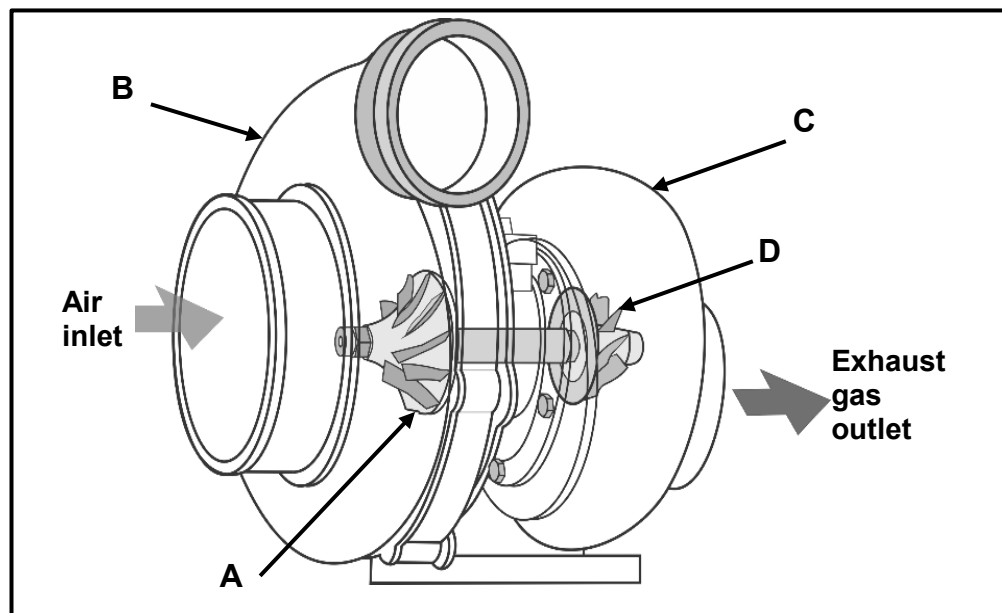

FIGURE 6.7
- 6.7 FIGURE 6.7 below shows a turbocharger that is fitted to an internal combustion engine. Answer the questions that follow.